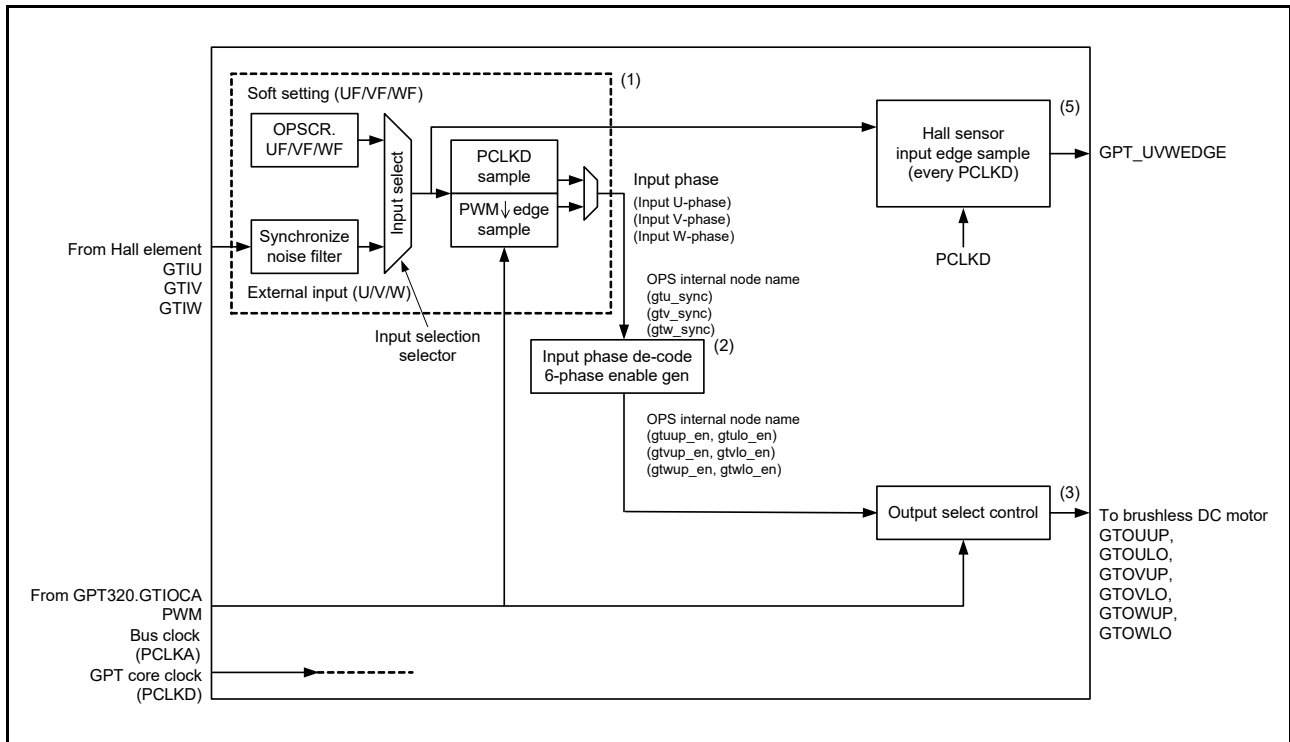

Figure 23.77 Conceptual diagram of GPT_OPS control flow
Figure 23.77 shows the GPT_OPS control flow conceptual diagram.
In the GPT_ OPS control flow conceptual diagram shown in Figure 23.77, (1) is a selection of input phase from software settings and external input by the OPSCR.FB bit.
In the GPT_OPS control flow conceptual diagram shown in Figure 23.77, (2) enables the 6-phase signals by decoding the input phase selected by the OPSCR.FB bit. The 6-phase enable signal is used for internal processing of GPT_OPS.
In the GPT_OPS control flow conceptual diagram in Figure 23.77, (3) represents the selection of the output waveform by setting the OPSCR register bit.
In the GPT_ OPS control flow conceptual diagram shown in Figure 23.77, (5) outputs the Hall sensor input signal edge to the ELC.